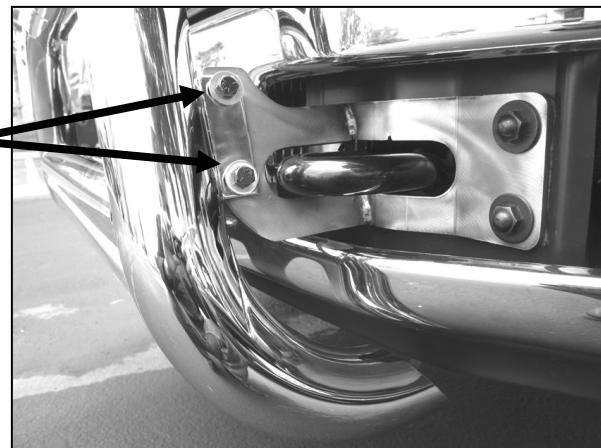

Figure 4
6. With help position Bull Bar on the outer side of Mounting Brackets. Attach Bull Bar to Mounting Brackets using the included (4) 10mm x 30mm Hex Bolts, (4) 10mm Nuts, (8) 10mm flat Washers and 10mm lock washers (Figure 4). Do not tighten at this time.